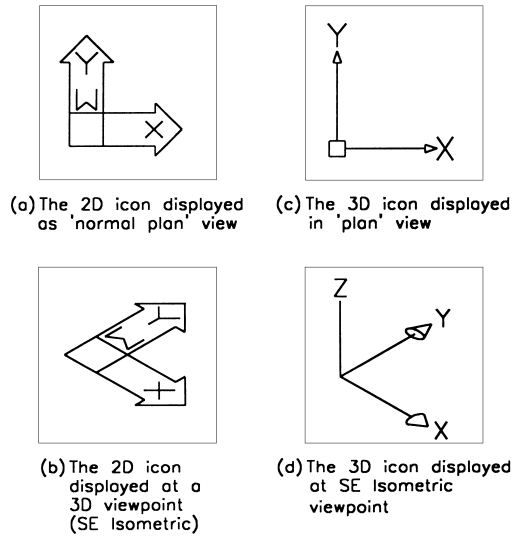

Figure 3.3 The 2D and 3D icon display.
- 5 The icon is displayed as Fig. 3.3(a)
- 6 Menu bar with **View-3D Views-SE Isometric** and the icon will be displayed in 3D as Fig. 3.3(b)